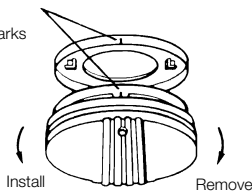

FIGURE 4
6. Alignment marks are provided on the edge of the trim plate and the alarm. After installing the mounting plate, place the alarm on the mounting plate with the alignment marks lined up. Twist the alarm in the direction indicated by the "ON" arrow on the alarm cover (see Figure 4) until it locks in place.